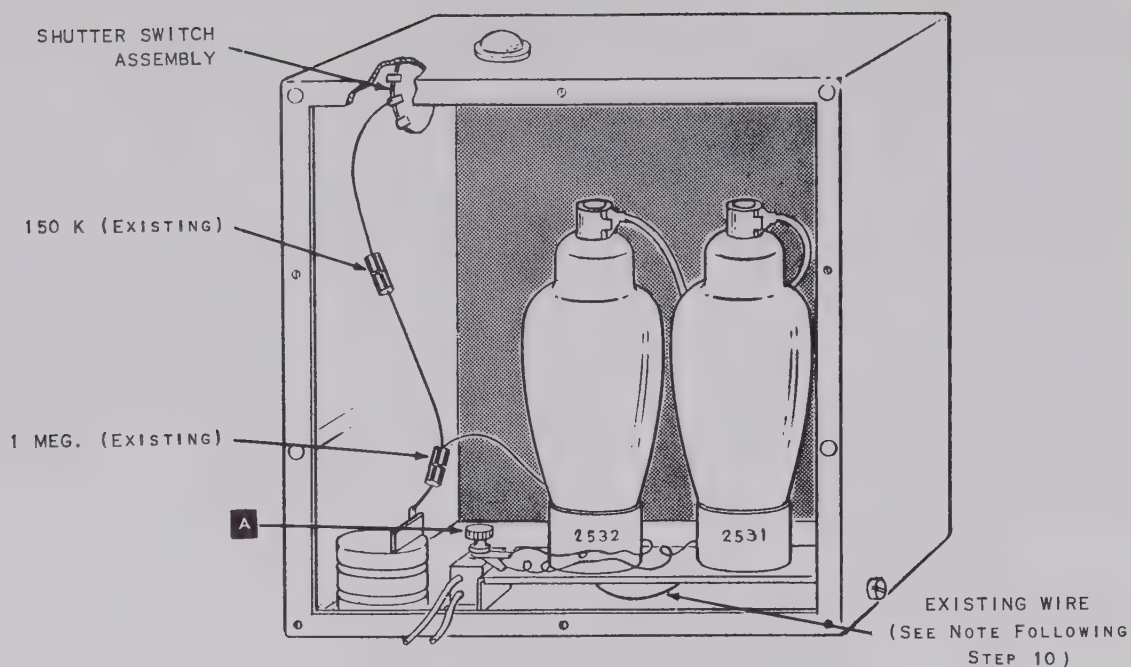

FIGURE 13. PHOTOMULTIPLIER RECEIVER COMPARTMENT WIRING
In order to attain additional stability of operation of a DU equipped with Photomultiplier Attachment, the wiring of the Photomultiplier Receiver Compartment may require modifications as outlined below. This will result in improved filtering, greatly reducing effect of line transients on operation of the instrument. Late model Photomultiplier Attachments already incorporate this modification, so compare the wiring in your Photomultiplier compartment with that shown in Figures 13 and 14 before proceeding.
- (4) Remove knurled nut and disconnect guard-ring leads (D, E, Figure 15) from binding post (A, Figure 13) at left of two Amplifier Tubes.
- (10) Remove existing wire from pin 3 of 2532 Tube socket. (See Figures 13 and 14.)
- (18) Connect and solder one lead of .1 mfd capacitor (C26), supplied, to lead between existing 150K ohm resistor and 1 meg resistor. (See Figure 13.) Correct method connecting C26 is indicated in Figure 15.